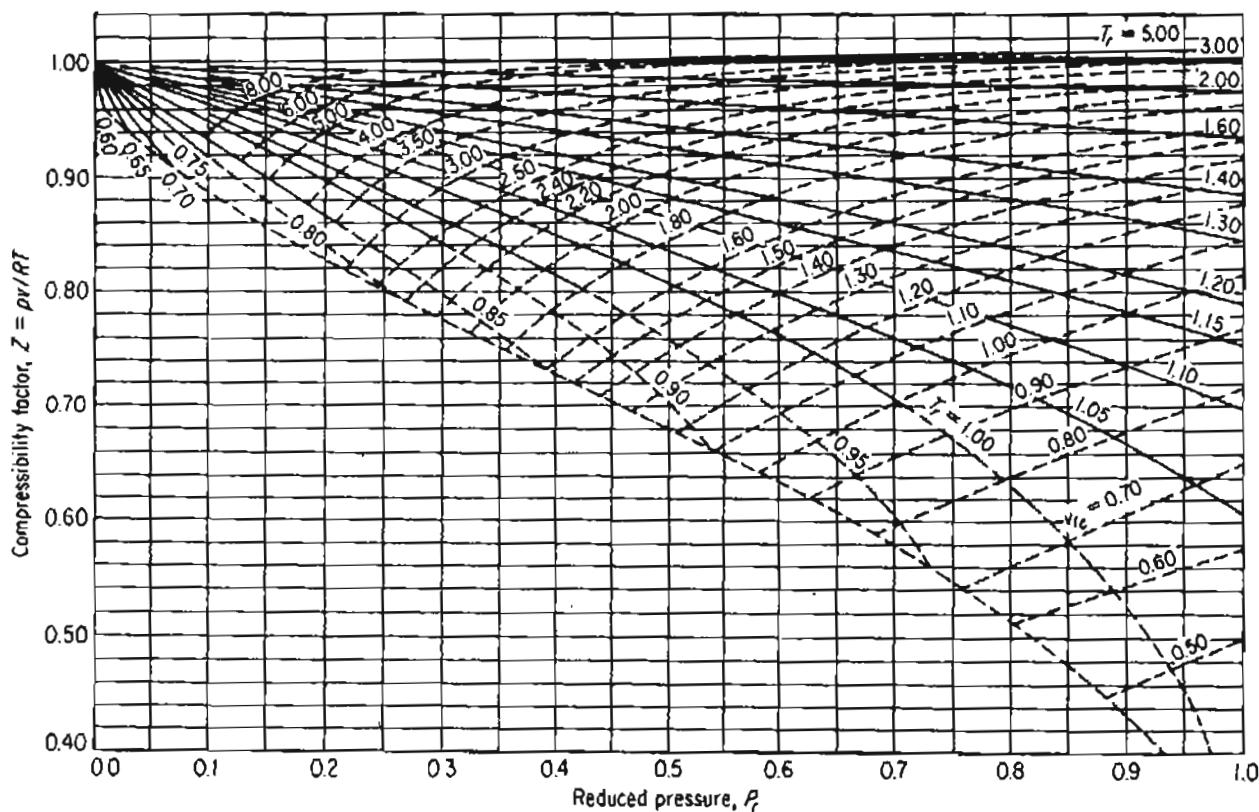

Figure 14.4a Generalized compressibility chart for lower pressures showing z as a function of p_r , T_r , and \hat{V}_{r_f} .
Because of the generalization feature shown in Figure 14.3b, you can use what is called the generalized compressibility factor z for your gas calculations. Figures 14.4a and 14.4b shows two examples of the **generalized compressibility factor charts**, or z -factor charts, prepared by Nelson and Obert.* These charts are based on data for 30 gases. Figure 14.4(a) represents z for 26 gases (excluding H_2 , He , NH_3 , and H_2O) with a maximum deviation of 1%, and H_2 and H_2O within a deviation of 1.5%. Figure 14.4(b) is for nine gases and errors can be as high as 5%. Note that the vertical axis is not z but zT_r in Figure 14.4(b). To use the charts for H_2 and He (only), make corrections to the actual constants to get **pseudocritical** constants
and then you can use Figures 14.4a and 14.4b for these two gases using the pseudo-critical constants as replacements for their true values. You will find these two charts and additional charts for other ranges of p_r and T_r on the CD that accompanies this book in a format that can be expanded to get better accuracy.
1. What is in the blank region in Figure 14.4a below the curves for T_r and \hat{V}_r ? The blank region corresponds to a different phase—a liquid.